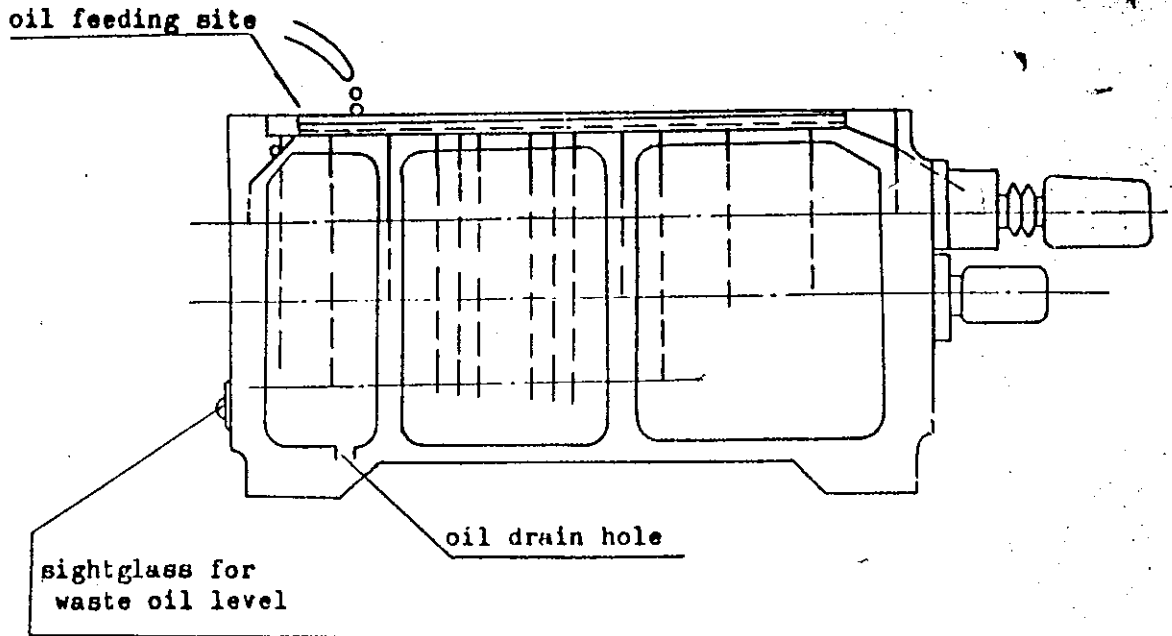

Fig.10 Lubricating diagram in feed gearbox
2. The sump on top of feed box is used to reservoir lubricant. The part of the feed box are drop-lubricated through capillary woolen yarns in sump. After a period of operation, drain the waste oil according to the indication on sightglass. (Fig.10).